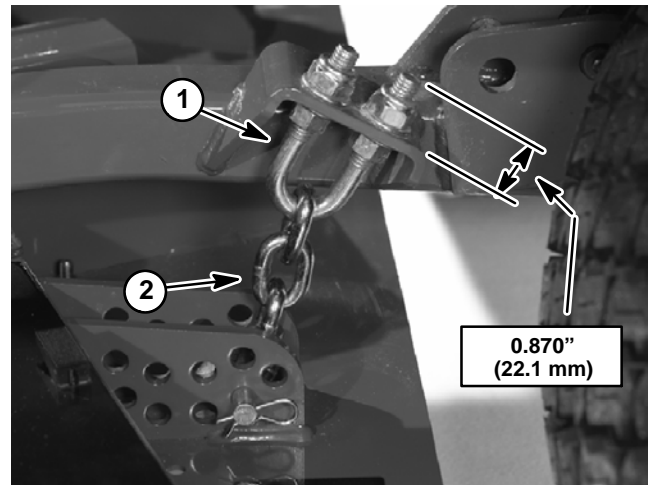

Figure 3
4. If sensing plate (item 32) was removed from lift arm, secure plate fully forward in lift arm slot.
5. If height-of-cut chain u-bolt was removed from lift arm, assemble u-bolt so that threaded portion extends **0.870" (22.1 mm)** above mounting plate on lift arm (Fig. 3).